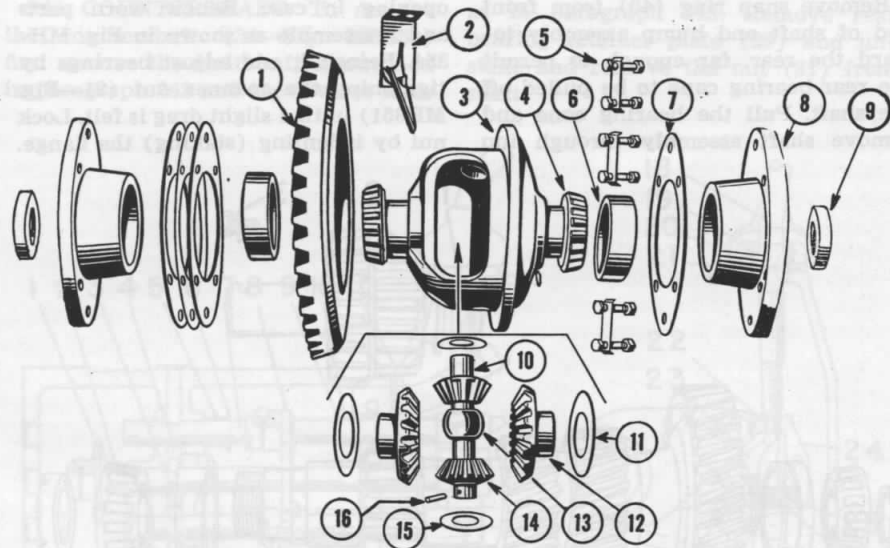

Fig. MH362—Differential exploded view—Models 20, 20K, 22, 22K, 81 and 82.
256. The mesh position of the main drive bevel gears is non-adjustable; the backlash, however, is adjustable by shims (7—Fig. MH362) or (11—Fig. MH365). After the differential carrier bearings have been adjusted to zero end play proceed to adjust the bevel gear backlash to 0.007-0.012 by transferring a shim from under one bearing retainer (or carrier on some late models) to the other. Note: Do not remove a shim from tractor or the differential carrier bearing adjustment will be changed.
After the unit is installed on the tractor, vary the number of shims (18) to provide .002-.005 total shaft end play to assure that bore of thrust ball (13—Fig. MH362), is approximately centered on pinion shaft (10).